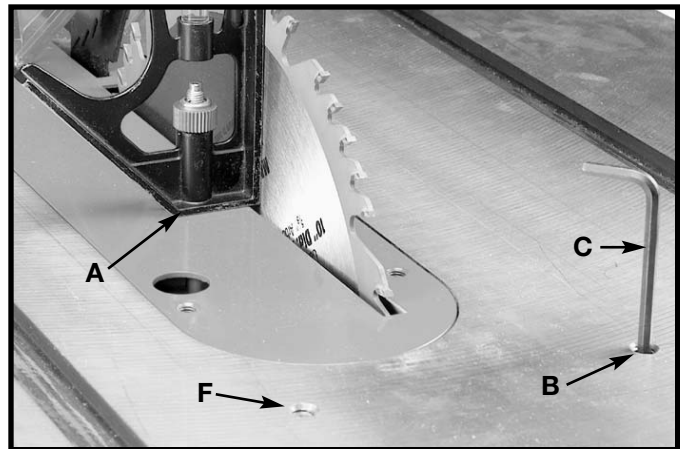

Fig. 47
3. Use a combination square (A) Fig. 47 to see if the blade is at 90° to the table surface.
4. If the blade is not at 90° to the table, loosen set screw (B) Fig. 47 with 5/32" hex wrench (C), and turn the blade tilting handwheel until the blade is 90° to the table. Turn set screw (B) clockwise until it bottoms.
7. If the blade is not at 45° to the table, loosen set screw (F) Fig. 47, and turn blade tilting handwheel until the blade is 45° to the table. Turn set screw (F) clockwise until it bottoms.